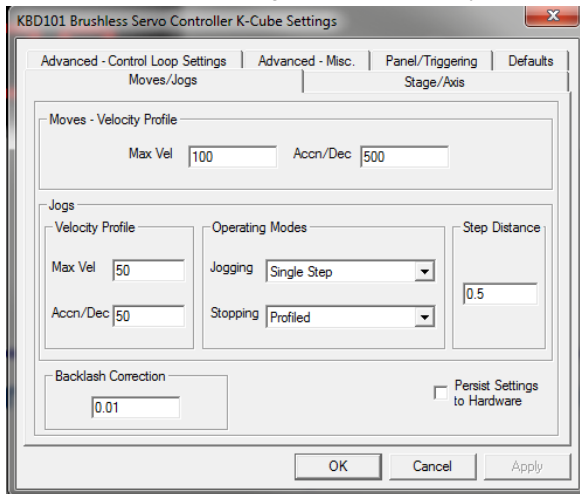

Fig. 5.6 Settings Panel - Move/Jogs Tab
- 2) Select the Move/Jogs tab as shown in Fig. 5.6.